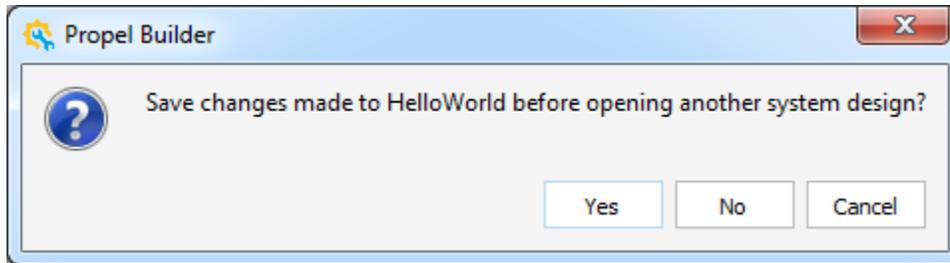

Figure 2.55. Propel Builder Dialog Box
2. Click **Switch Verification and Soc Design** icon  from Propel Builder GUI Toolbar. Propel Builder dialog box opens (Figure 2.55), if project is not saved.